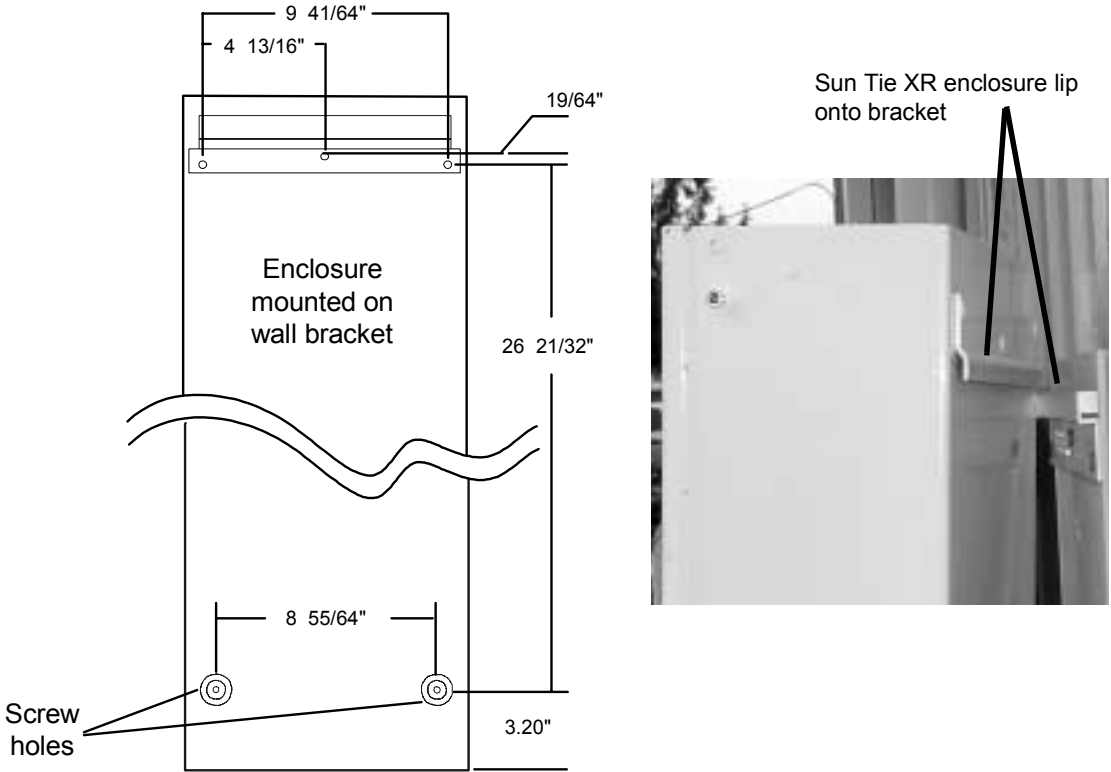
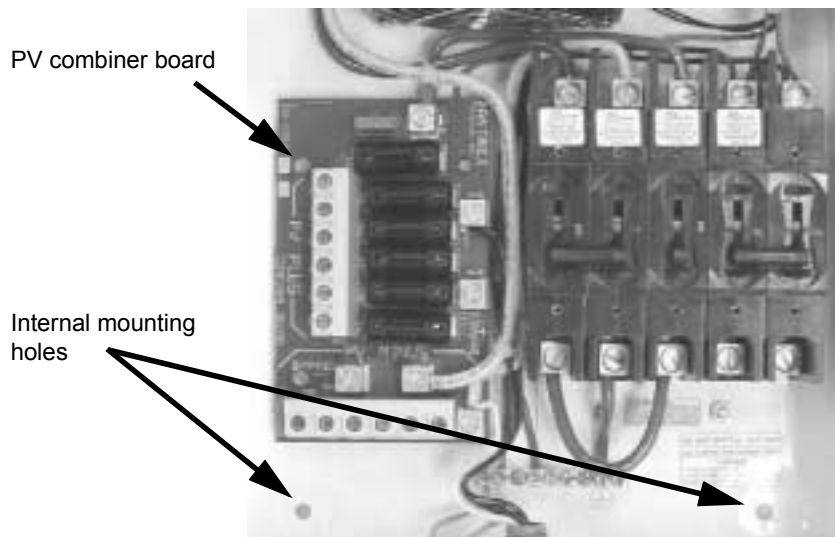

Figure 2-5 Enclosure mounting
Figure 2-8 Mounting holes
5. Place the Sun Tie XR's rear lip, located on the back top of the enclosure, over the bracket and ensure it is seated properly, as shown in Figure 2-5.
8. After the unit is correctly seated on the upper bracket, locate the two screw holes in the bottom (back) area of the enclosure and mark these locations on the wall, as shown in Figure 2-5 and Figure 2-8. Remove the Sun Tie XR (if required).
2. Route the wires from the PV array(s) through the conduit and into the lower section of the Sun Tie XR enclosure, as shown in Figure 2-8.